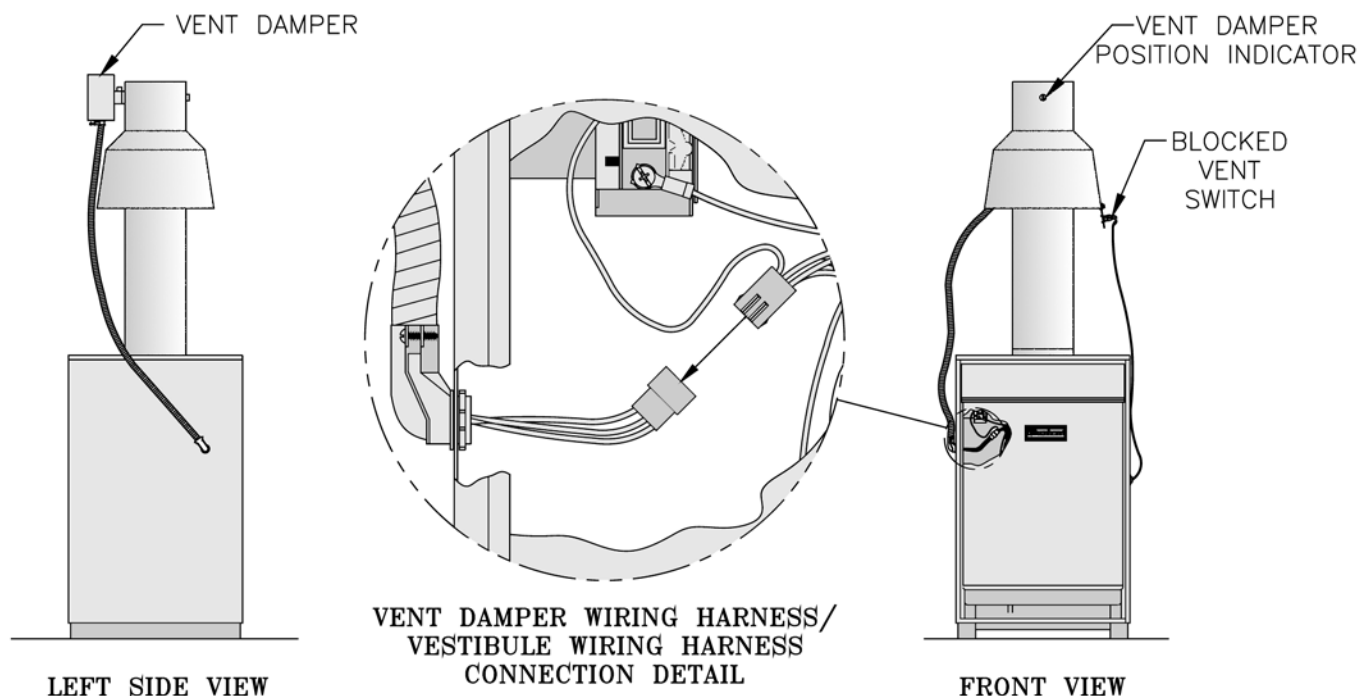

Figure 26: Vent Damper Installation
E. Boiler Equipped With Vent Damper. See Figure 26.
B. Wire Vent Damper (if used; required on 805H, optional on 806H - 810H). See Figure 26.
3. Plug Vent Damper Harness Plug into Vent Damper Receptacle. See Figure 26.